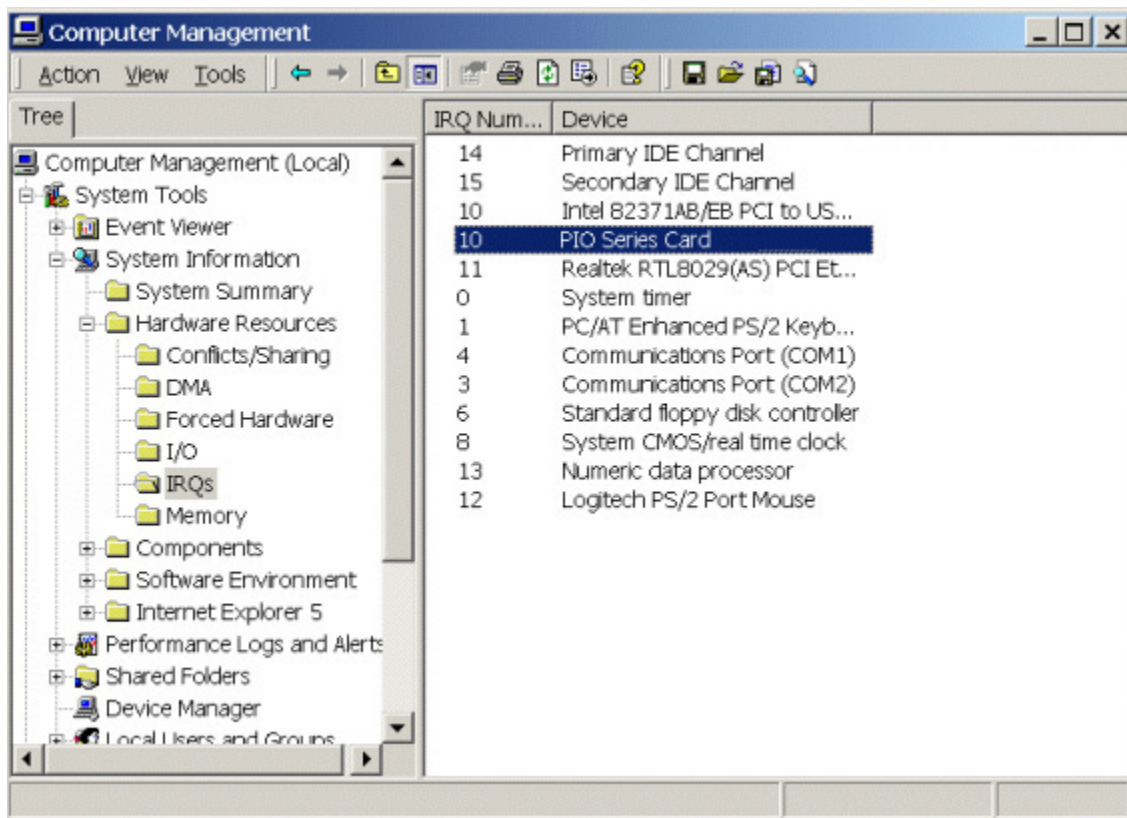

Figure 4-2. The “IRQs” resources under “Computer Management”.
- “Computer Management” will popup, refer to figure 4-2.